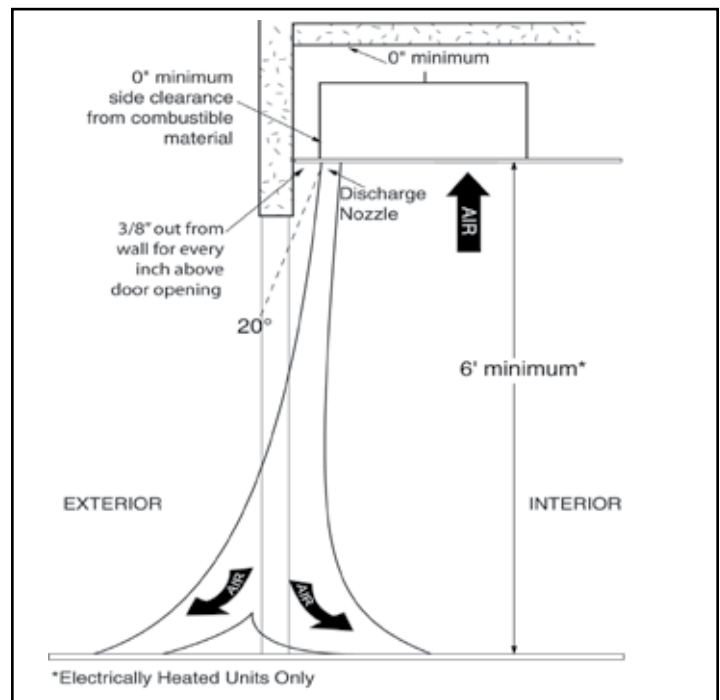

Figure 1
- D. When determining the mounting location for the unit(s), make sure that nothing interferes with the curtain of air developed when the discharge vanes are directed from 0° to 20° toward the door opening. If the air stream strikes any obstruction (the top edge of the doorway, a door opening device, etc.), the effectiveness of the unit will be greatly reduced. **See Figure 1.**